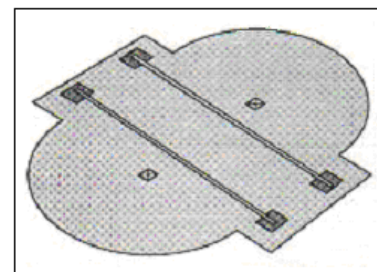

fig. 1
- Extend the brace (9) or braces (depending on model of pool) across the leveled area of the pool as shown in figure 1.
- Join the angle plate (3) to tens (9) using screws M5x15 (10) and nuts (11). Make sure that the angled part of the angle plate (3) is facing in the right direction (3), as illustrated in photos 1, 2 and 3. The angle plate (3) must be joined to the strip at its upper part, tighten the nuts in random order.